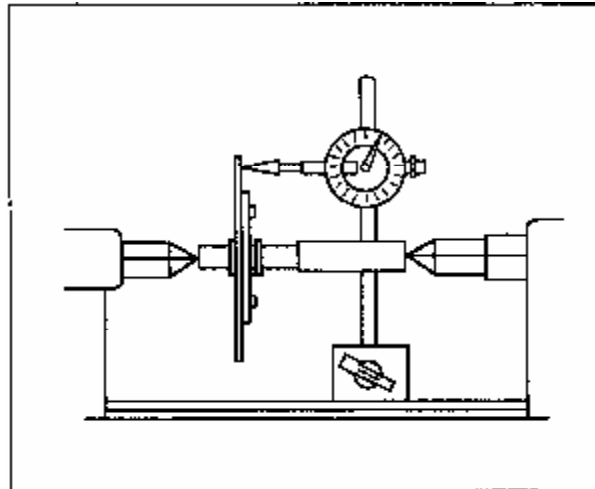

Figure 3-63 Check Run-out Tolerance of Clutch Driven Plate
3.10.2 Check for run-out tolerance on the edge of driven plate (see Figure 3-63). The maximum run-out tolerance is 0.8mm. If it exceeds this value, replace the driven plate.